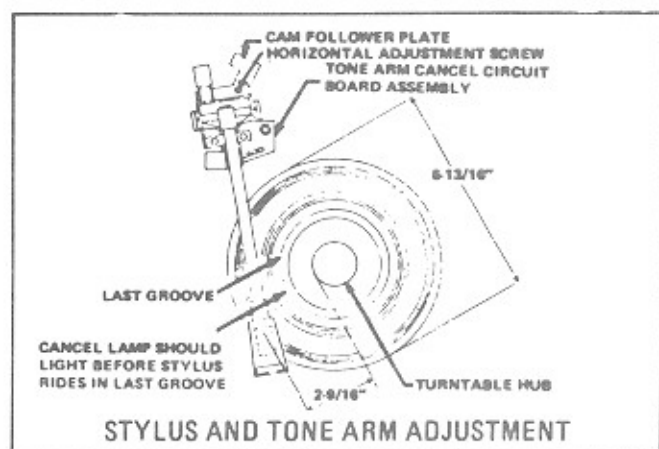

Figure 3-21. Stylus And Tone Arm
1. Place undersize (6 and 25/32 inch diameter) record on turntable (See Figure 3-21.).